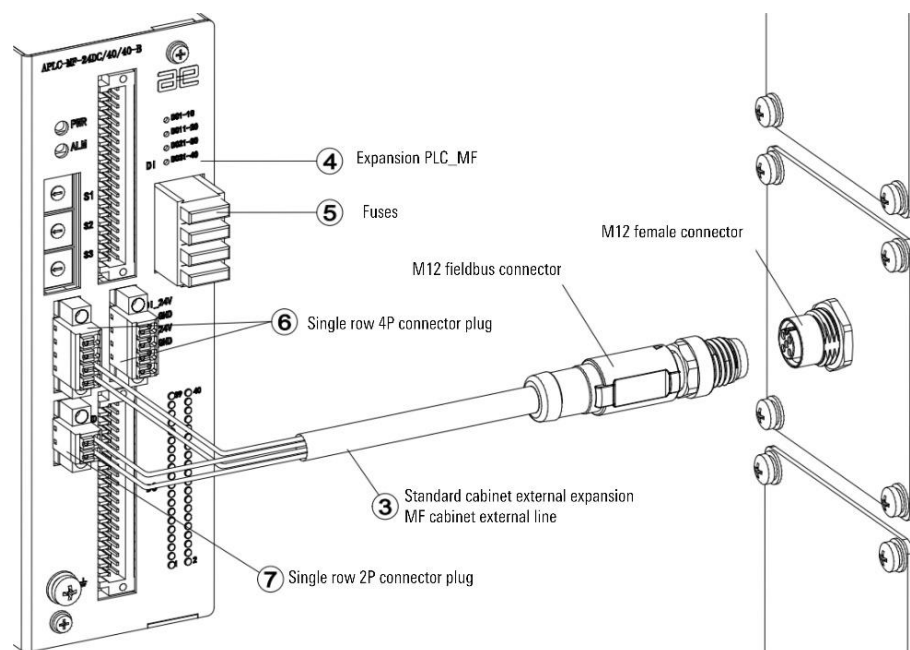

Figure 17-10 Diagram of connecting external expansion PLC\_MF
- Step4. One end of the standard cabinet with an M12 connector outside the MF cabinet is connected to the M12 female connector of the cabinet according to the triangular positioning mark, and the other end is connected to the power interface of the expansion PLC\_MF (single row 2P connector plug) and 485 interface (single row 4P connector plug), refer to Figure 17-10.